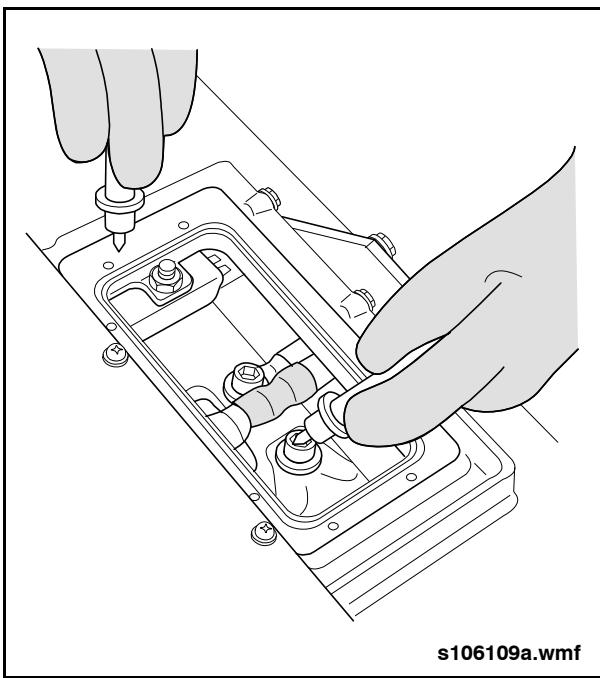

Fig. 59: Voltage Check Between Each DPIM AC Phase & Ground
- e. AC phase to chassis ground. See "Fig. 59: Voltage Check Between Each DPIM AC Phase & Ground" on page 5. Voltage reading must be less than 3VDC before work can continue.